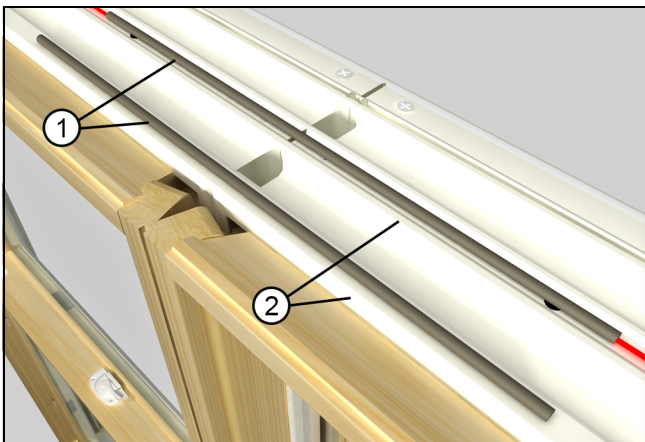
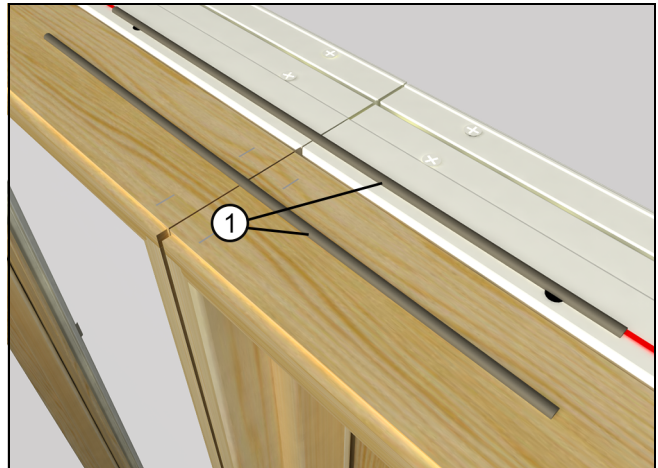

Figure 11 ELDH
Figure 12 ELOFD
2. Apply two 1/4" (6) x12" (32) beads of construction adhesive on the frame beneath where the mul brackets will be applied. See Figure 11 and Figure 12.